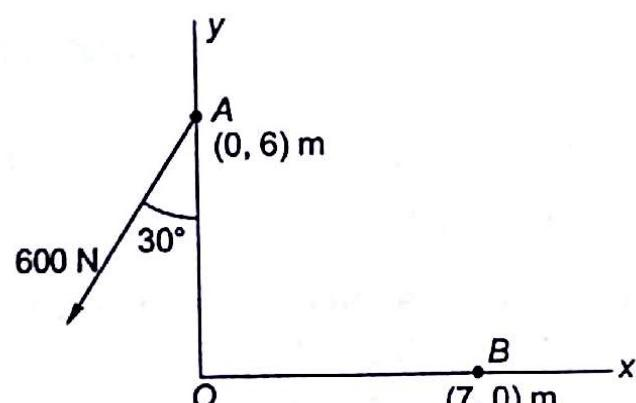

Fig. 2.22
- 2.2 A force of 600 N is applied at A(0, 6) m of a rigid body. What is the equivalent force and couple at point B(7, 0) m as shown in Fig. 2.22?